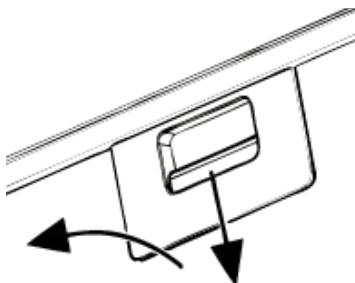

Fig.8
8.6 To remove the aluminium filter (Fig. 8), press the spring catch and by pulling it towards yourself and downwards, remove the filter from the panel. Install the filter in the reverse order.